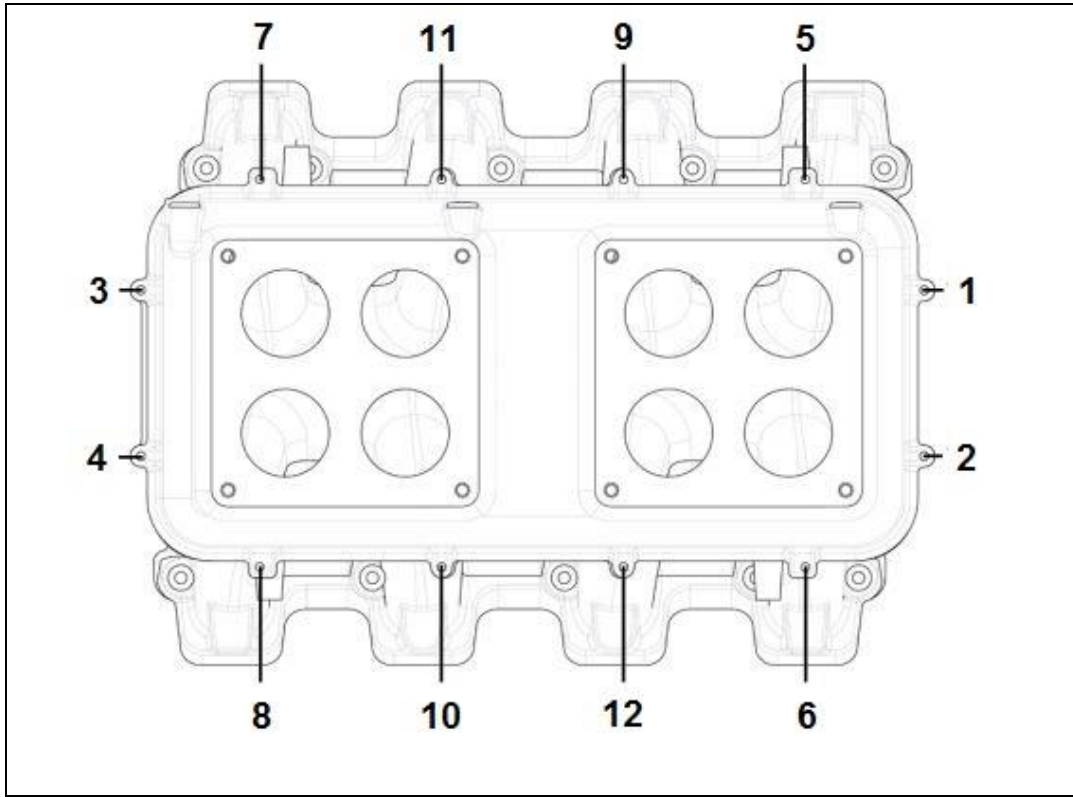

Figure 7 – Plenum Top Removal Sequence
4. Remove the 12 ¼-20 x 7/8" bolts following the sequence shown in figure 7. And remove the plenum top.